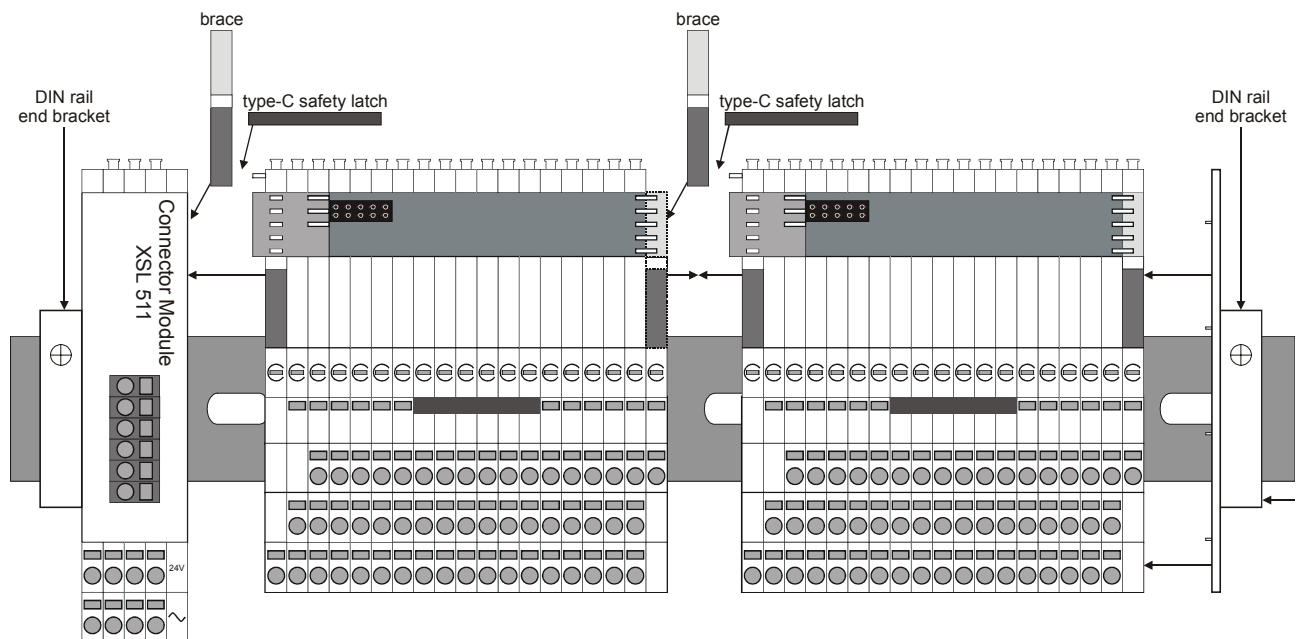

Fig. 11. Sliding bus connector connects adjacent modules
6. Push the sliding bus connector to the left until it locks onto the matching circuit board section on the adjacent connector module (see Fig. 11).